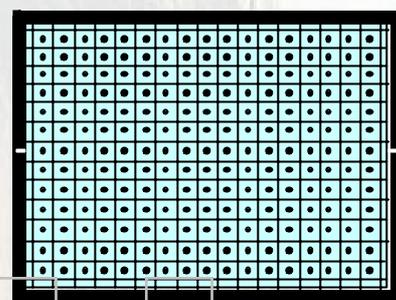

Fig.1-8 PAL CONVERGENCE
2. Use the [VOLUME +/-] key of the jig remote control and set the value to either 1D, 1E or 1F, and confirm that the crosshatch square is a regular square. (Fig. 1-8)